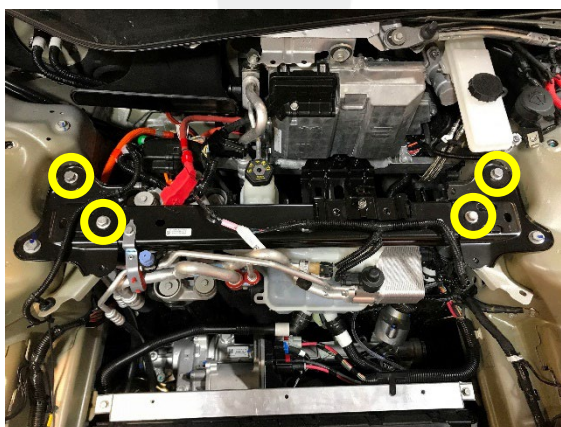

Figure 30
24. Tighten the remaining bolts (x4) as shown (Figure 30) (torque 67 Nm).